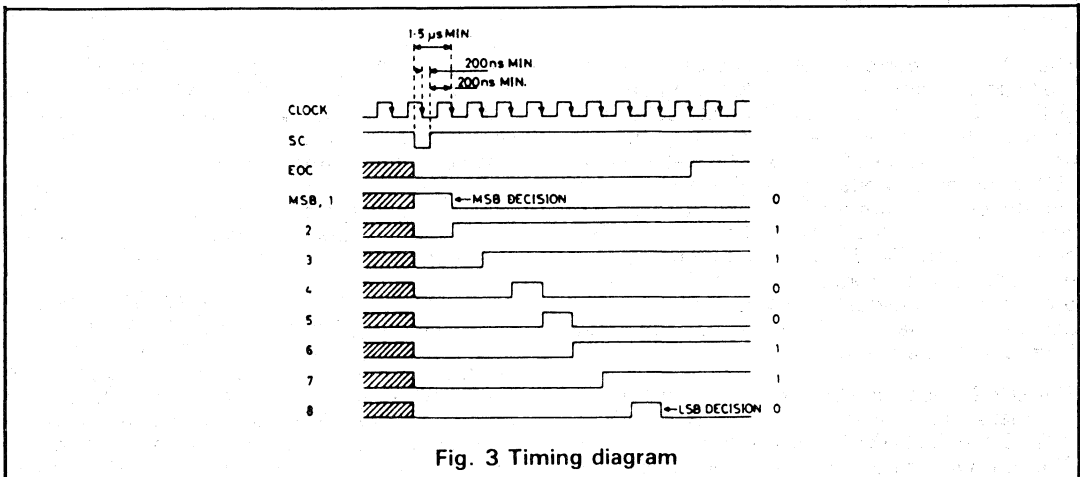

Fig. 3 Timing diagram
Operation of the ZN427 is best described with reference to the timing diagram - Fig. 3. Conversion is initiated by a start convert (SC) pulse which can be applied asynchronously with respect to the ZN427 clock providing the following criteria are met.
3. As a special case of conditions (1) and (2) the SC pulse may be coincident with, and of the same duration as, a negative going clock pulse. Application of the SC pulse sets MSB to a '1'